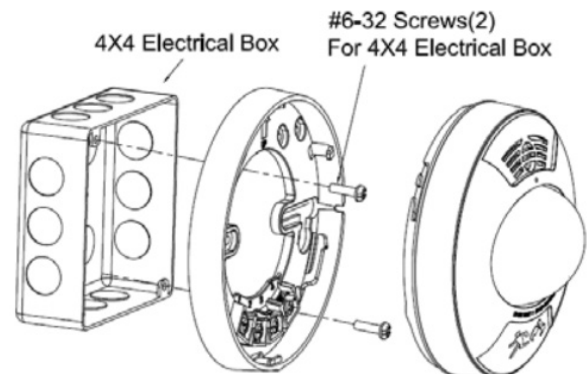

Figure 2 Base Installation
1. Mount the IQ673HB/IQ673HB1 base onto a 4x4 electrical box, see Figure 2.